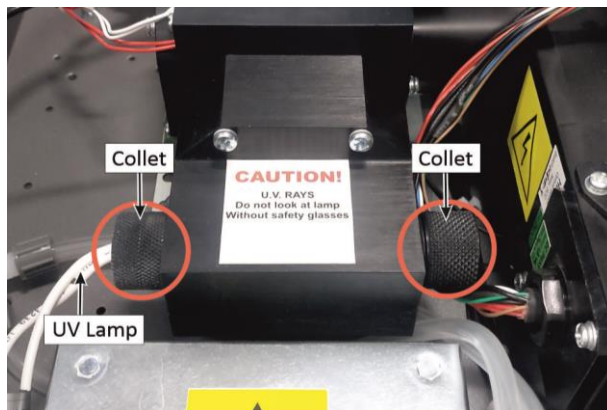

Figure 145 – Collets of the UV Lamp
2. Refer to Figure 145. Loosen the collets at each end of the lamp.